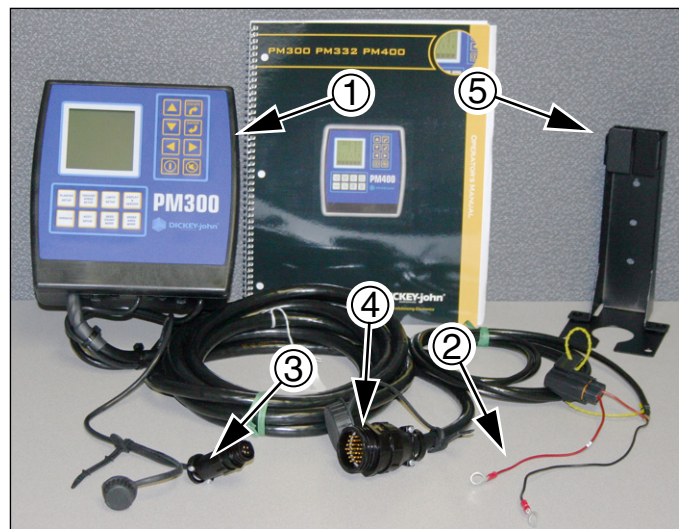

Figure 2
**Refer to Figure 2**
Refer to Figure 2 on page 2